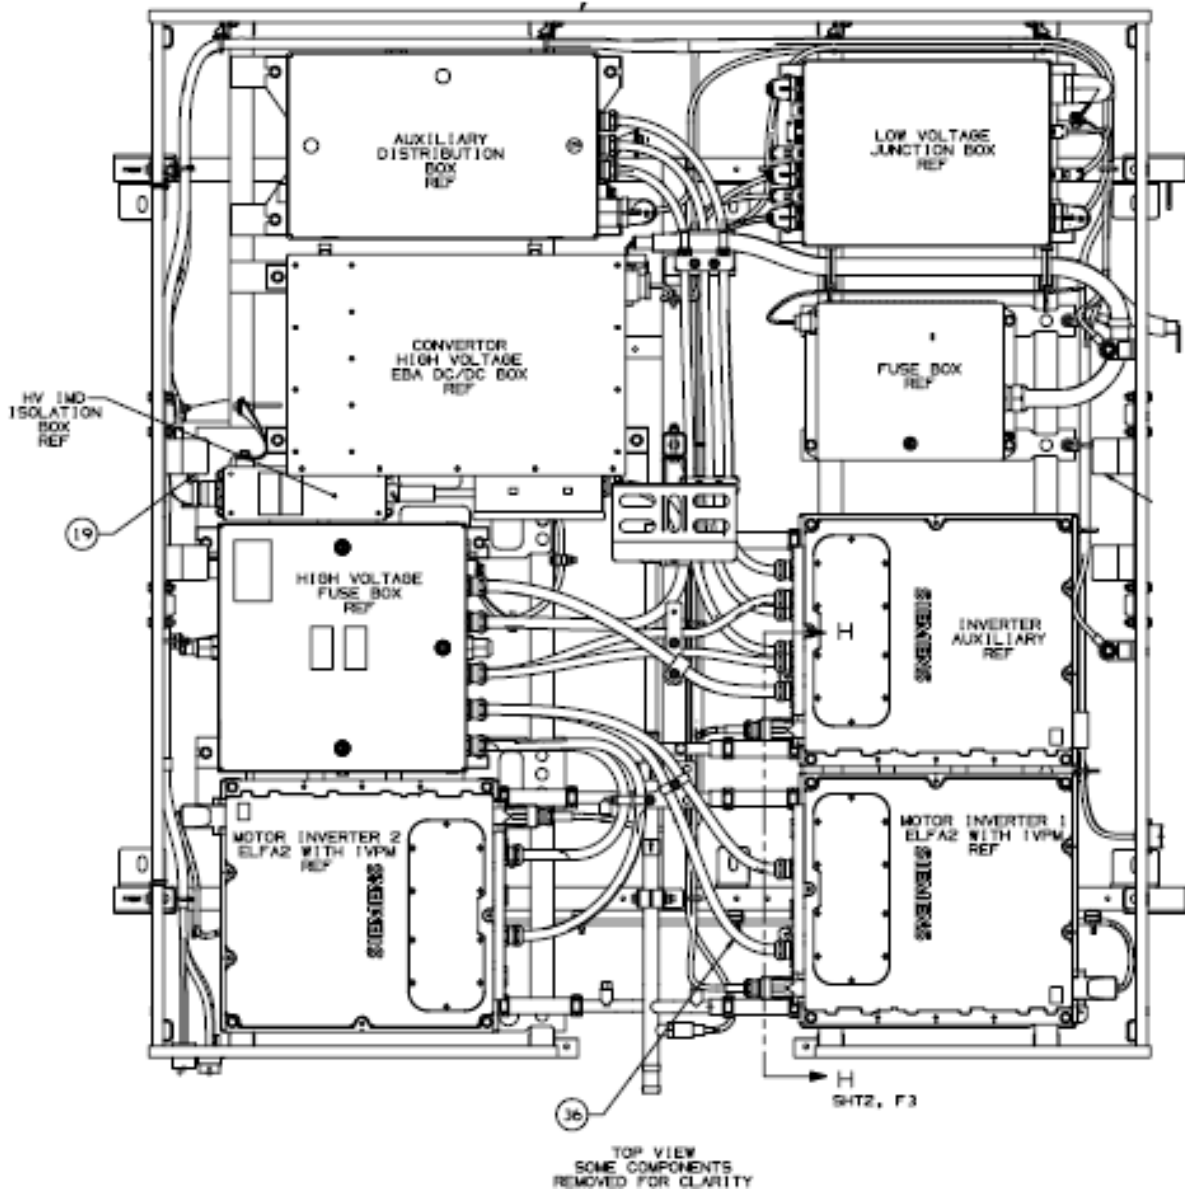

Figure 12: High Grade Inverter Rack Layout
6. Wearing proper PPE and using an appropriate voltmeter as per appendix A, confirm that no voltage is present between HVPOS_VEH_FB & HVNEG_VEH_FB before proceeding. These connections are located inside the HV Fuse box inside the inverter rack as seen in Figure 12. Please see Figure